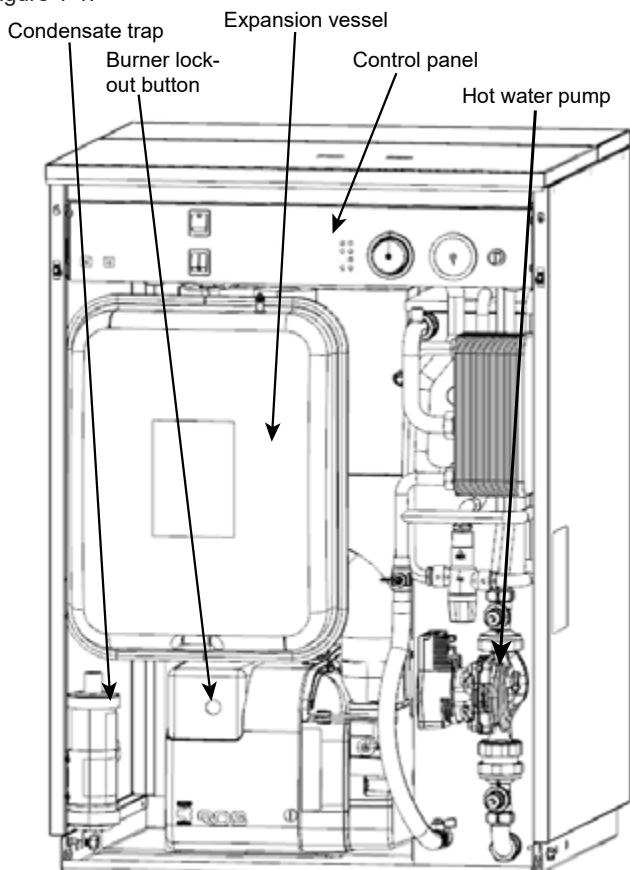
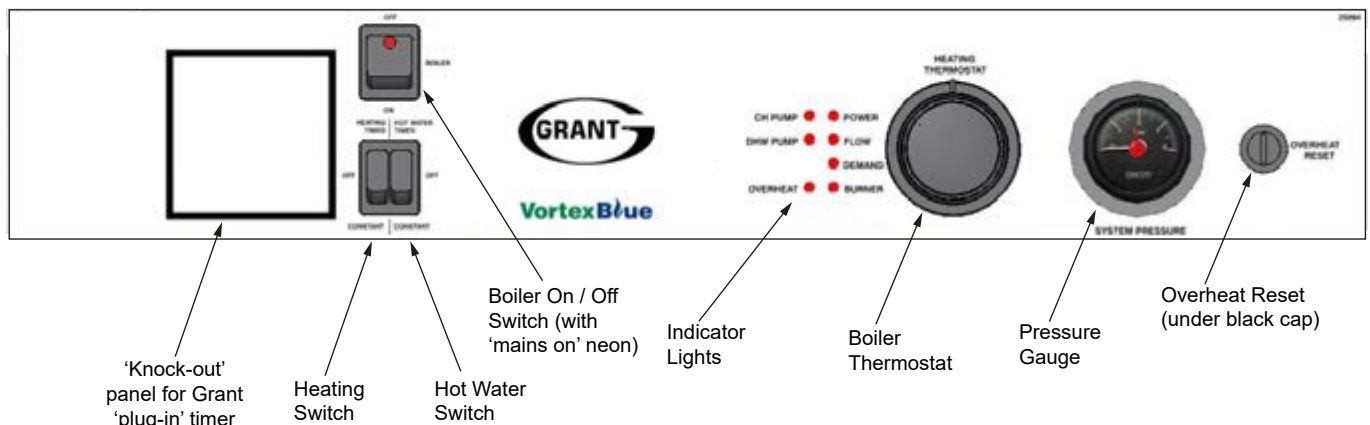

Figure 1-1: Boiler components
Figure 2-1: VortexBlue Internal combi boiler control panel
To gain access to the boiler controls, pull the front panel forward at the top to disengage the fixing clips, then lift it up and off the boiler, to reveal the boiler components and controls, as shown in Figure 1-1.
5. Check if the burner 'Lock-Out' reset button on the burner body (refer to Figure 1-1 for location) is lit.
Refer to Figure 1-1 for the location of the control panel within the boiler casing and Figure 2-1 for the details of the control panel.
If your boiler goes off and you try to light it but nothing happens and the 'Lock-Out' reset button on the burner is not lit, the overheat thermostat has probably operated. The OVERHEAT indicator LED on the control panel will also be flashing if the overheat thermostat has tripped (see Figure 2-1).
To reset the overheat thermostat, unscrew the small plastic cap marked "reset" (see Figure 2-1), press the button and replace the cap.
These 7 red lights, located on the boiler control panel, indicate the operating situation of the boiler. Refer to Figure 2-1 for the position of these lights on the boiler control panel.
A 'plug-in' mechanical timer is available to purchase from Grant UK (part code: MTKIT), which fits into a suitably sized 'knockout' panel in the boiler control panel (see Figure 2-1).